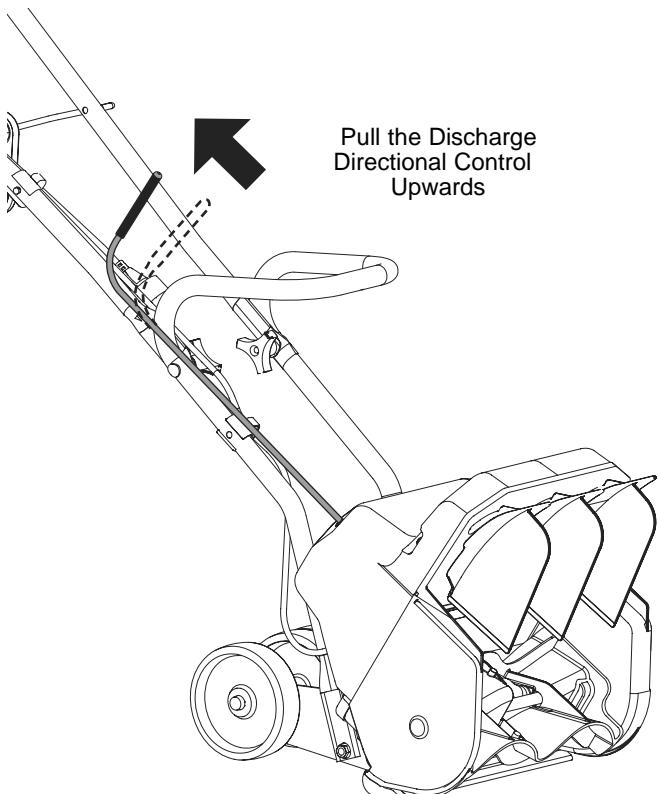

Fig. 6
2. Firmly grasp the discharge directional control handle and pull it up. This releases the spring-loaded rod from the discharge direction slot and allows free movement (Fig. 6)
- ¥ If you are transporting the unit with the handles folded, be careful not to make contact and accidentally bend the discharge directional control (Fig. 6). If you bend or damage the control, you can no longer adjust the vanes.